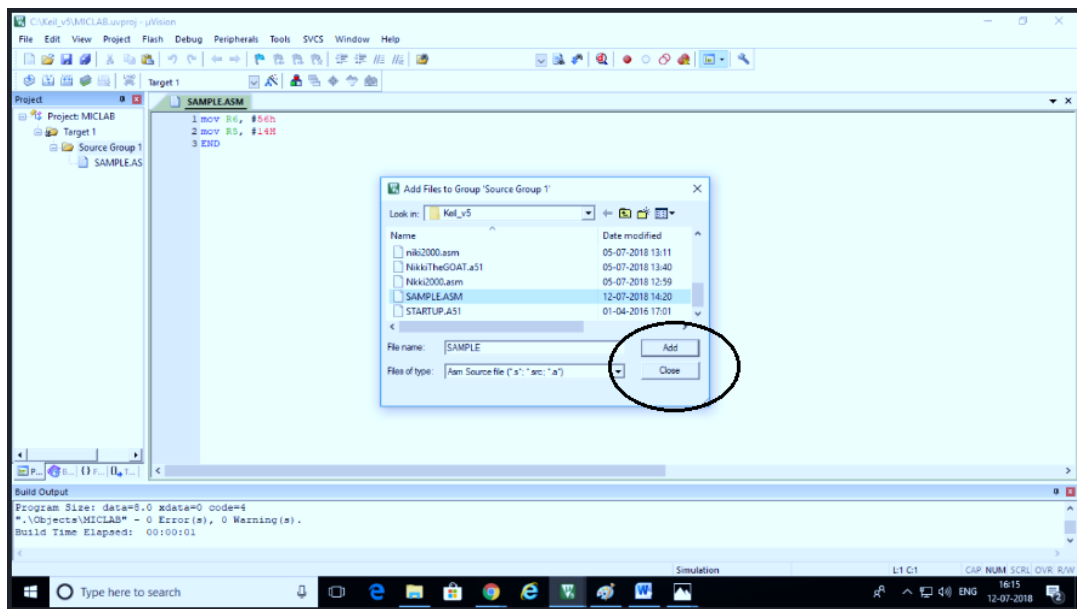

Figure 4.6: Selecting .C file Window
9. Select file type as C source file. Now all .C file Name will be displayed. Select appropriate file, click ADD and close. (refer Figure 4.6)